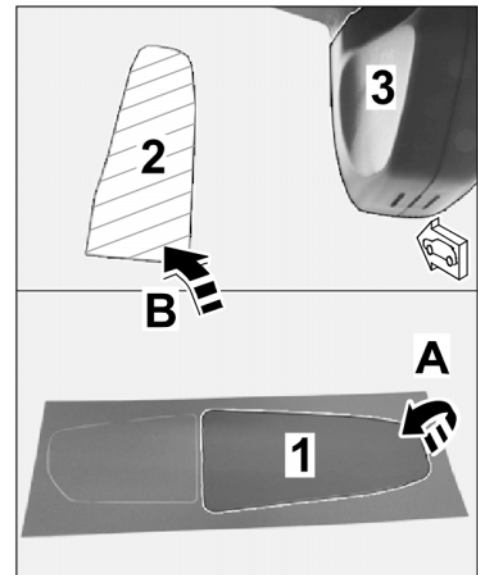

Figure 9
2.2.1 Pull 3M privacy film off the backing sheet (⇒ *Figure 9-LHD vehicle -*).